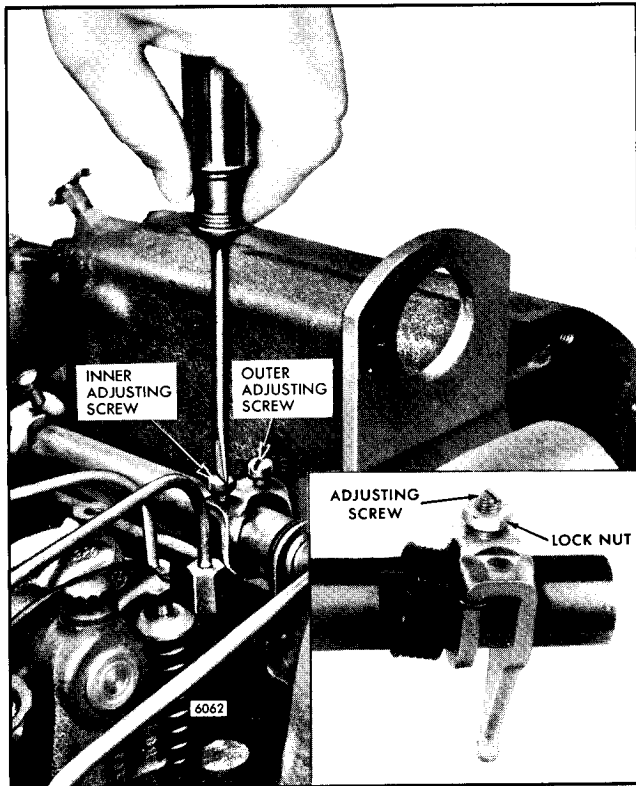

Fig. 2 - Adjusting Height of Rack Control Lever Adjusting Screws
1. Adjust the inner and outer adjusting screws (Fig. 2) on the rear injector rack control lever until both the screws are equal in height and tight on the control tube.